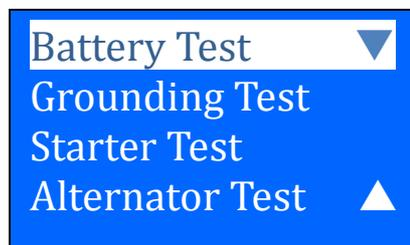

Figure 50
- After you have made your choice, selecting either “New: Clear Memory” or “Continue...Test” will proceed to the display below: (Fig. 50)